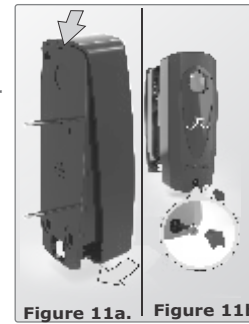

Figure 11a. Figure 11b.
**The beam lenses MUST be fitted on the receiver during the alignment procedure as they serve to focus the infrared beam.** Failure to do so may result in an inability to achieve alignment. Refer to figure 11a. **Do not screw closed until the beams have been aligned.**
18. Close the units by placing the front cover onto the base as shown in figure 11a. **Do not force the cover, rather place it over as illustrated.**